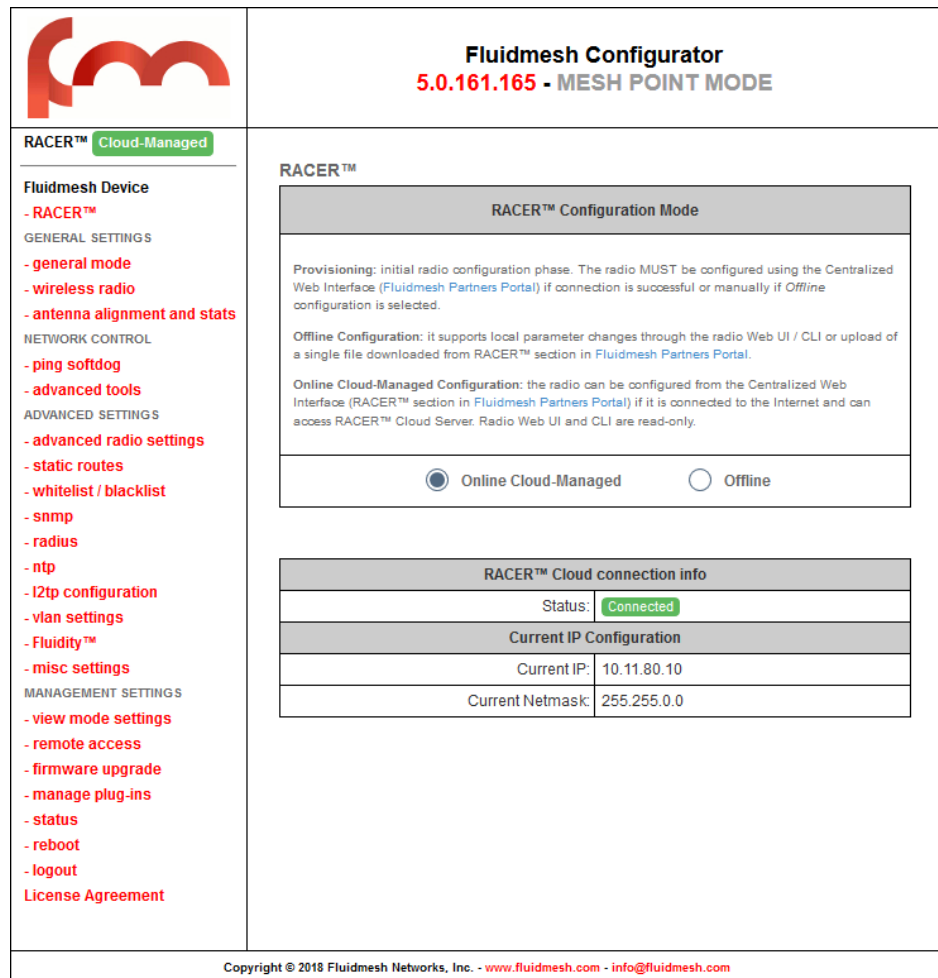

Figure 18. Fluidmesh Configurator (landing page)
- The Configurator landing page will be shown (Figure 18 (page 57)).